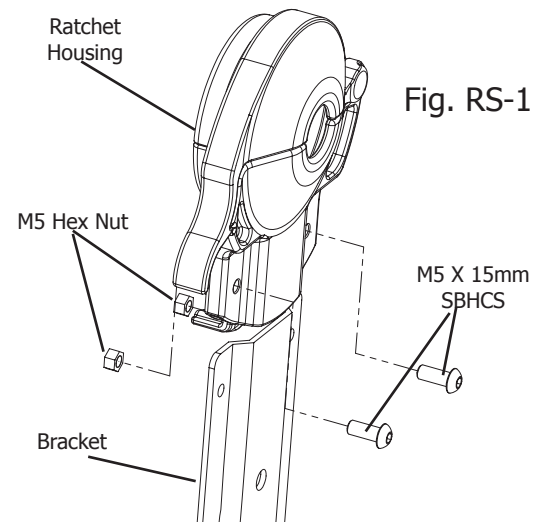

Fig. RS-1
To remove the Ratchet Housing, first remove the (2) M5 X 15mm SBHCS. Then pull the old Ratchet Housing off the bracket. Now slide the new ratchet housing onto the bracket. Then insert the (2) M5 X 15mm SBHCS into the M5 Hex Nuts as shown in Fig. RS-1